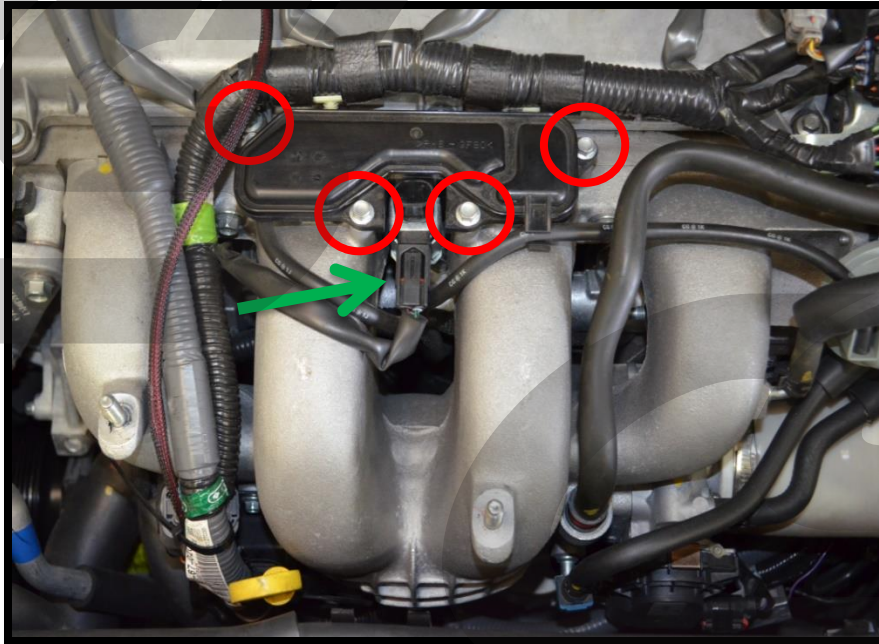

Figure 2b
- b) Remove the swirl vane controller box (red circles in Figure 2b) with an 8mm socket, then disconnect the electrical circuit (green arrow) and remove the controller box.